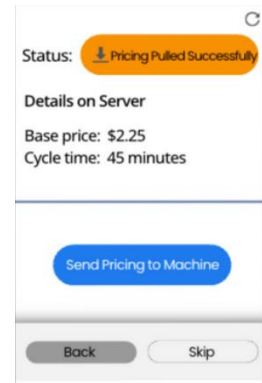

Figure 16
16. The app will attempt to push the pricing profile from the app to the machine (**Figure 16**).